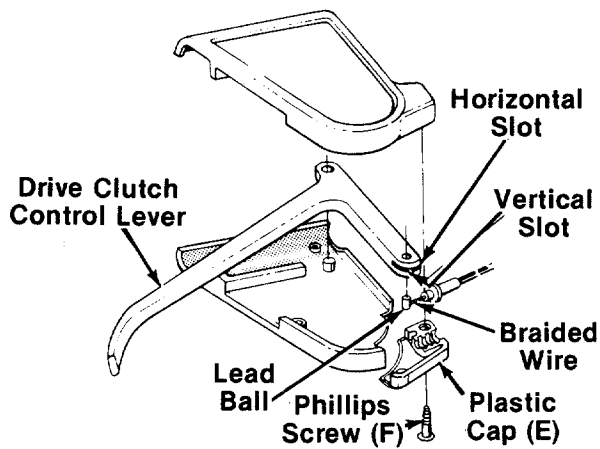

FIGURE 10.
- b. Slide the braided wire around in the horizontal slot. See figure 10.
- d. Secure the plastic cap (E) to the clutch control housing using the two Phillips head screws (F). See figure 10.